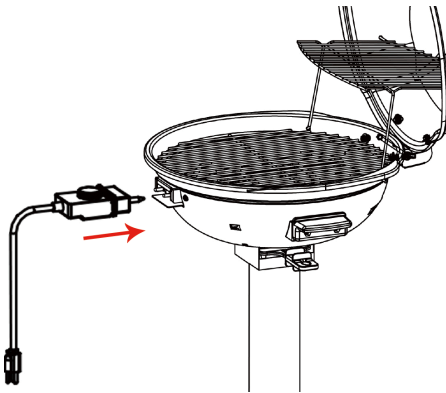

Fig. 2
2. Insert the Temperature Control Thermostat Prong (part #7a) with the Temperature Control Dial facing up, into the Opening for the Temperature Control (part #2a) at the front of the unit just below the rim of the Bowl. (Fig. 2, page 12). Push in all the way to be sure it is making full contact.